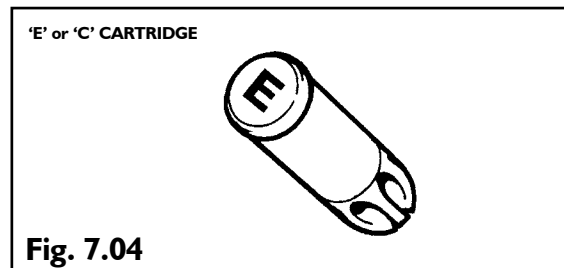

Fig. 7.04
- ▶ Only use the correct grade of CASH cartridge bearing the "E" or "C" headmark, as shown in Fig 7.04